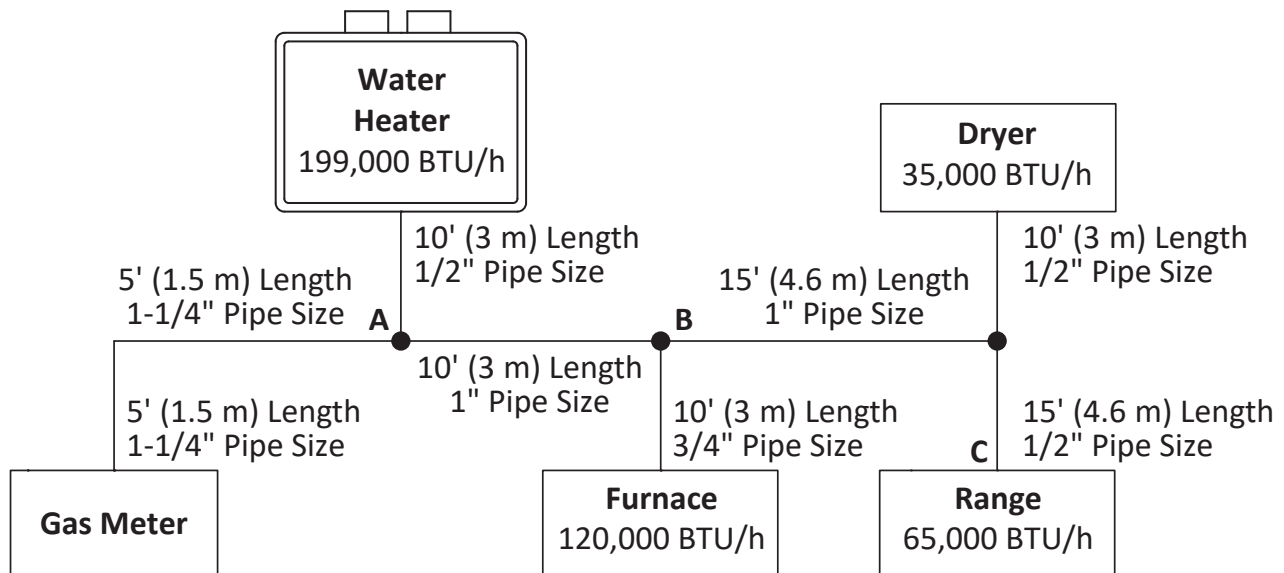

Figure 19 - Pipe Sizing Diagram
Based on Energy Content of 1,000 BTU/Cubic feet (Figure 19):
- 1 Divide each appliance's BTU/h requirement by 1,000 BTU/ft3 to get the appliance's ft3/h requirement. Take into account the distance the appliance is from the gas meter. Use Table 13 and Figure 19 below to properly size the line.